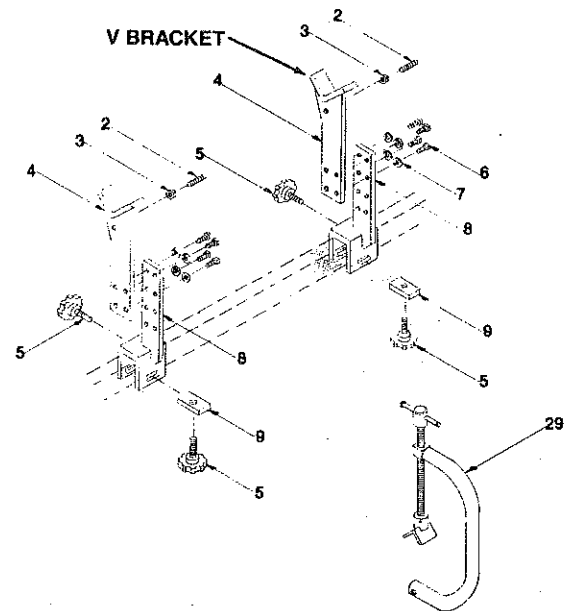

FIG. 31
The reel hub support consists of a lower mounting bracket that fits over the square tooling mounting bar and two (2) threaded locking screws. Attached to this is the upper "V" bracket that cradles the reel hub when in position. There are three (3) vertical adjustments on this fixture, but it will normally be used in the upper two hole position. (FIG. 31)